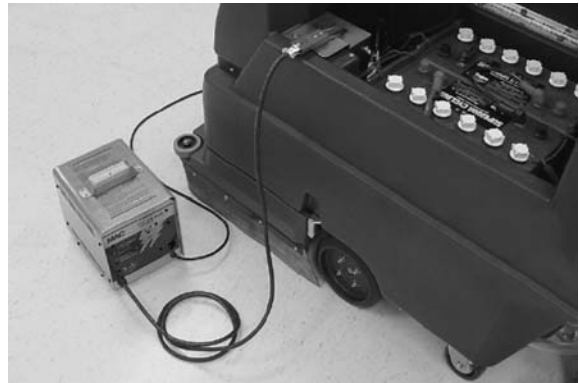

FIG. 30
4. Plug charger's DC output connector to battery connector located near battery compartment (Figure 30).